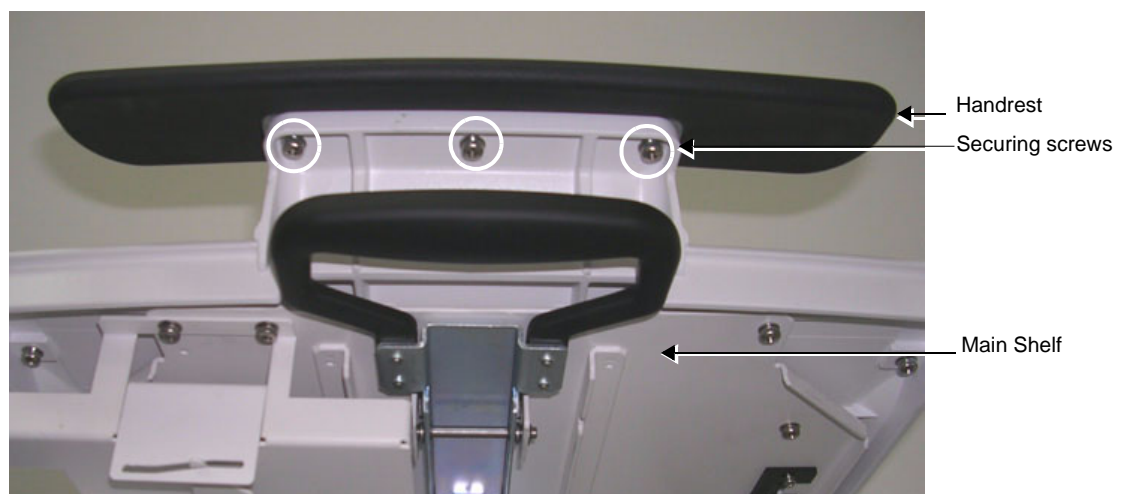

Figure 8-102 Handrest Secured to Main Shelf (viewed from below)
- 2) Working from the *front* of the SafeLock Cart and below the main shelf, loosen and remove the three screws that secure the handrest to the main shelf - see Figure 8-102 below.